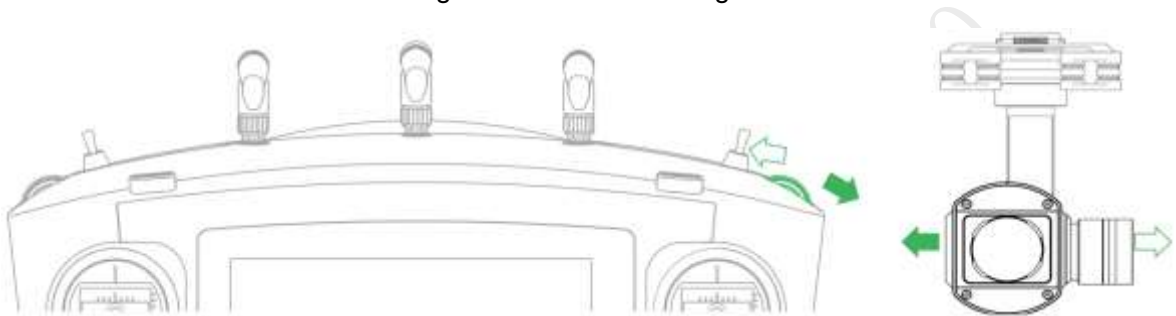

Figure 2-15
- PTZ course scroll wheel: control horizontal shooting angle of camera lens, as shown in Figure 2-15.